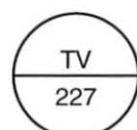

Figure 62. Instrument Tag
2. Determine the measured variable and function of the device using the instrument tag in figure 62.